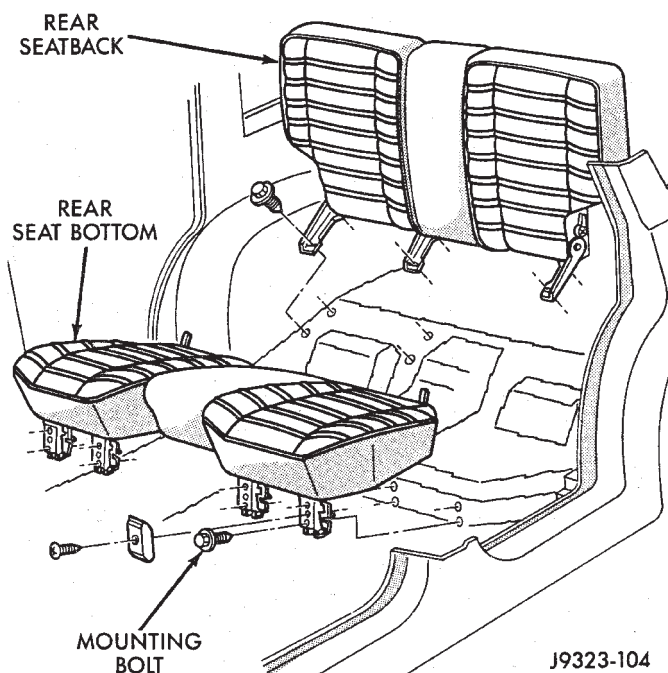

Fig. 5 Rear Seat Mounting
(1) Remove lower seat cushion. Refer to removal procedure.
(2) Remove 2 bolts holding seatback side support (Fig. 5).
(3) Tilt seatback forward, lift it upward and detach it from center pivot.
- (1) Position seatback in vehicle.
- (2) Install seatback onto center pivot.
- (3) Position side support with bolt holes aligned. Install 2 side support bolts (Fig. 5).
- (4) Install lower seat cushion. Refer to installation procedure.